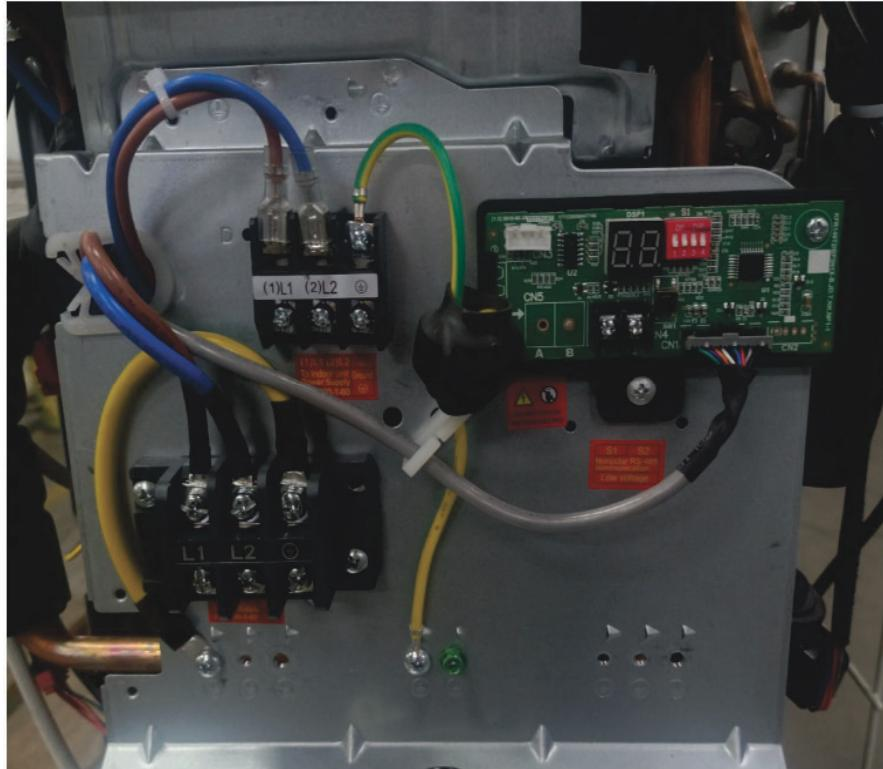

Fig. 25 —Grounding Wire Image - Size 36K
2. All connections between indoor and outdoor units must be as shown in Figure 25, 25, and 26. The connections are sensitive to polarity and will result in a fault code.